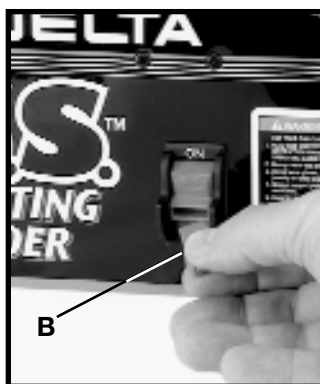

Fig. 19
IMPORTANT: When the tool is not in use, the switch should be locked in the "OFF" position to prevent unauthorized use. To lock the switch, grasp the switch toggle (B) and pull it out of the switch (Fig. 19). If the switch toggle is removed while the sander is running, the tool can be turned "OFF", but cannot be restarted without inserting the switch toggle (B).